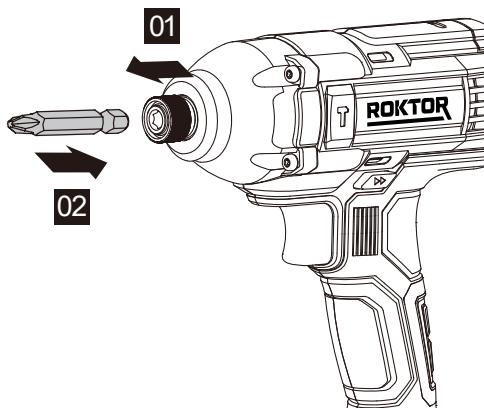

Figure 3-1
3. INSERTING & REMOVING THE BIT (NOT SUPPLIED) (SEE FIG. 3-1 & 3-2)